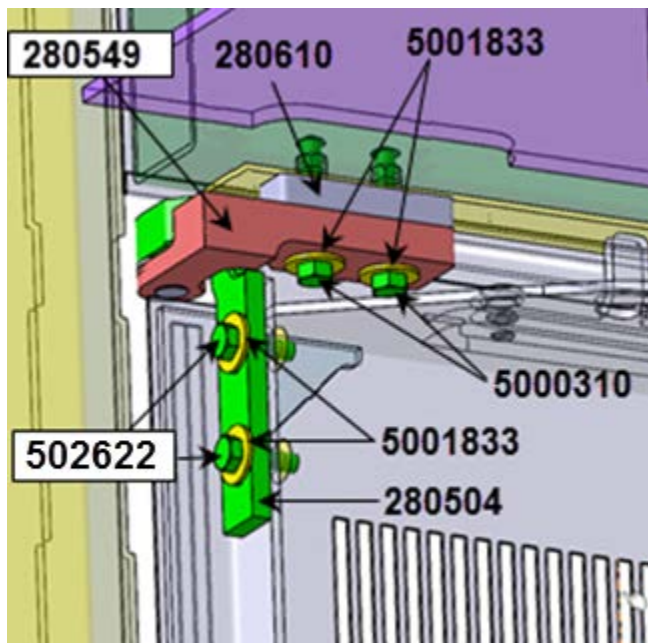

FIG.4 NEW UPPER HINGE
- 4) Install the new upper hinge (parts **280504**, **280549** & **280610** in kit Fig.4) making sure that:
- New M6 bolts and washers (**5000310** & **5001833**) are used at the upper (vehicle structure) mounting points (Fig.4).
- New M6 bolts (**502622** & **5001833**) are used at the door mounting points (Fig.4).